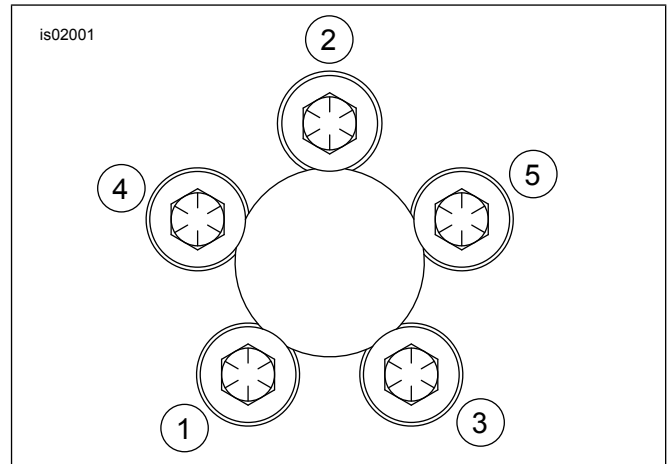

Figure 1. Torque Sequence, Sprocket
4. See Figure 1. Tighten the screws in the sequence shown to 31.2 N·m (23 ft-lbs).
7. Using the marks as a guide, and using the tightening sequence shown in Figure 1, turn each screw an additional 60 degrees, clockwise.